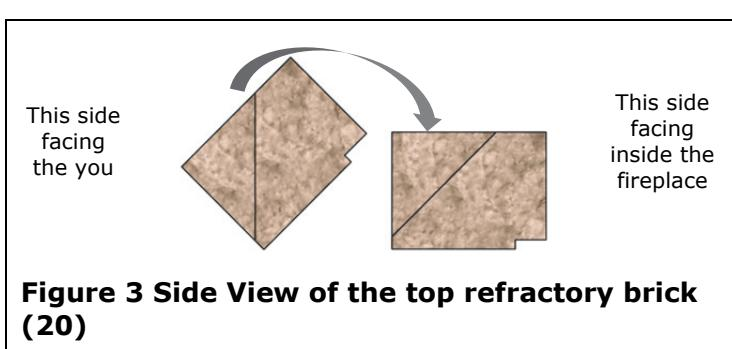

Figure 3 Side View of the top refractory brick (20)
Refer to Figure 3, Figure 4 and Figure 5 to continue with the installation procedure below:
17. To install the next refractory bricks, make sure the door is fully raised. Hold the top refractory brick (20) in the orientation shown on the left side of Figure 3. From inside the fireplace, slide the brick along the front facing inside the firebox, up to the top. Rotate the brick 45° to the back as shown in Figure 3. The notch will fit to the front angle. Hold it with one hand.